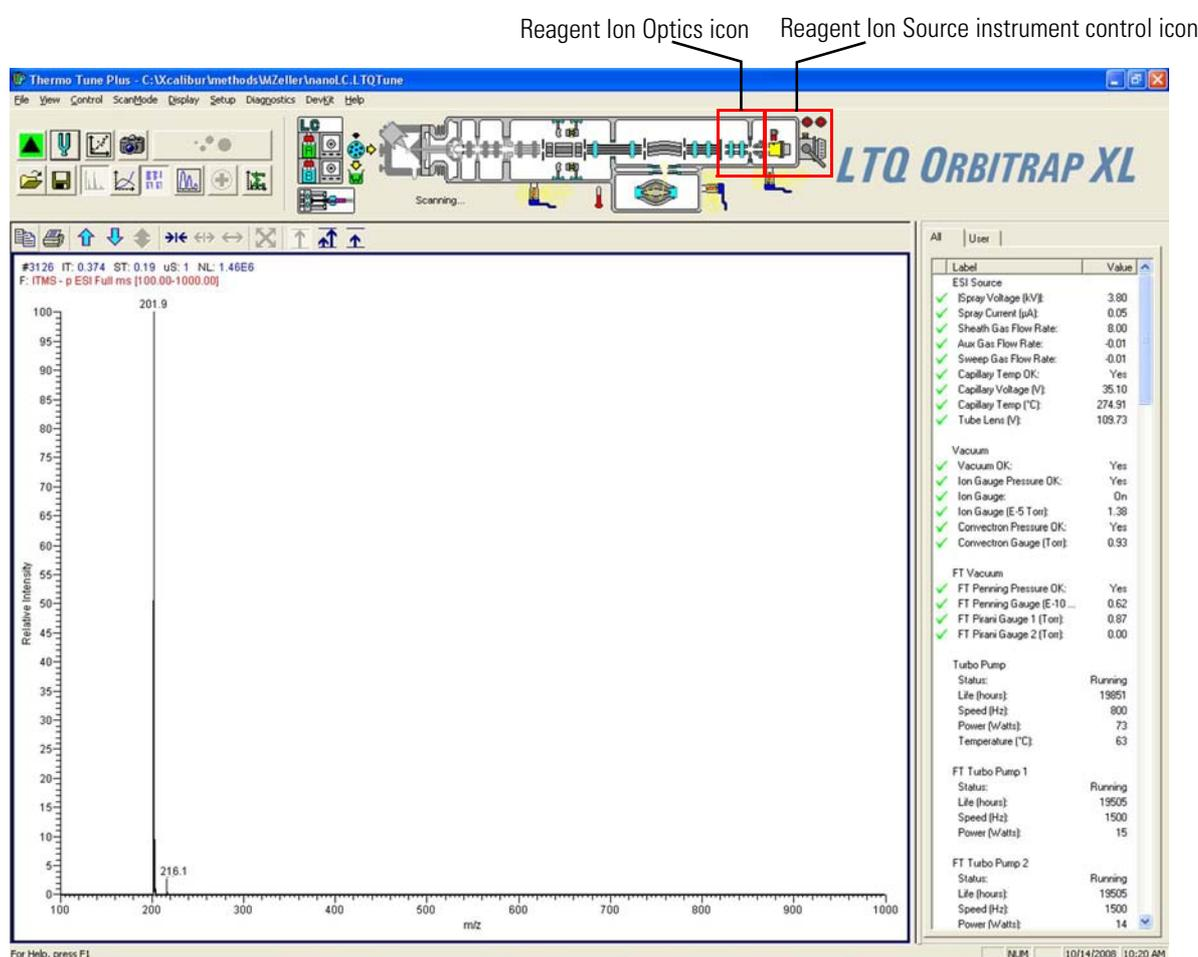
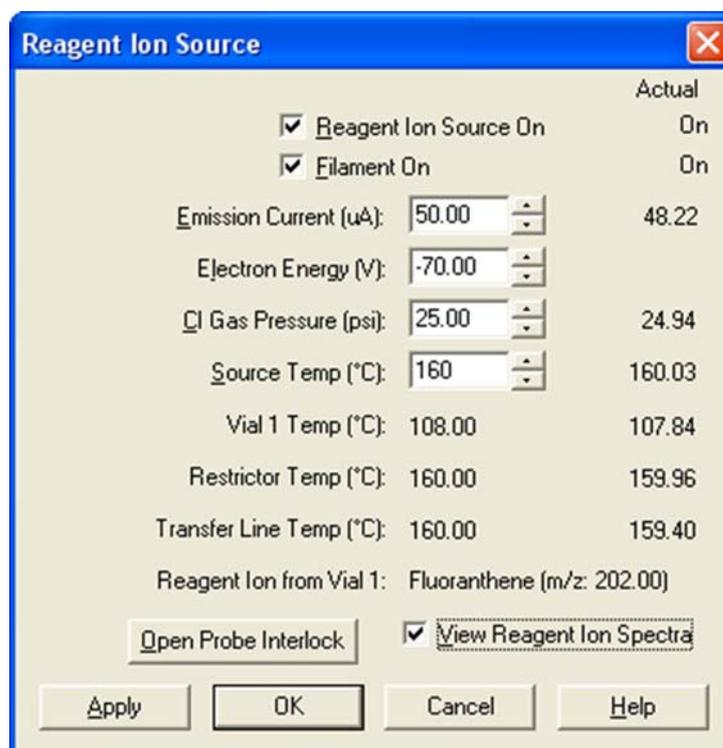

Figure 8-1. Status View for LTQ Orbitrap XL ETD
Figure 8-5. Reagent Ion Source dialog box
The Tune Plus window shows a schematic view of the LTQ Orbitrap XL ETD instrument. See Figure 8-1. The instrument control icon in the toolbar allows accessing parameters for the reagent ion source and the reagent ion optics.
The Reagent Ion Source dialog box allows you to set selected ETD reagent ion source parameters. See Figure 8-5 on page 8-6. The actual parameter values are shown on the right side of the dialog box.
1. Click the Reagent Ion Source instrument control icon in the toolbar of the Tune Plus window. (See icon in margin and Figure 8-1 on page 8-2.) The Reagent Ion Source dialog box appears. (See Figure 8-5 on page 8-6.)
2. In the Reagent Ion Source dialog box, click the Reagent Ion Source On check box. (See Figure 8-5.) If the reagent vials are not at their target temperature, a message box appears. See Figure 8-9. When the reagent vials reach their target temperature, voltage is applied to the ETD Module ion optics. The filament automatically turns on; the Filament On check box automatically shows a check mark and its actual condition switches from Off to On.
You can also tune the reagent ion source. When the Reagent Ion Source dialog box is open (Figure 8-5), click on the **Tune** button in Tune Plus.